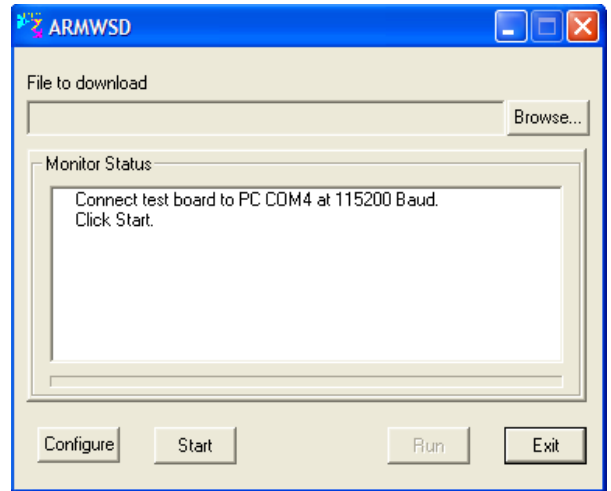

Figure 8. ISEB ARMWSD Firmware Downloader
2. Run the **ARMWSD.exe** program located in the **Firmware Utility** folder; it displays information about the downloader, see Figure 8.
When the COM port is selected, click **OK** to accept the changes and go back to the ARMWSD window (see Figure 8). The downloader is now fully configured.
1. Click **Start** in the ARMWSD box (see Figure 8) to initiate the flashing process.
4. If the downloading process fails, which is indicated in the **Monitor Status** window (see Figure 8), attempt the download again by repeating Step 1 through Step 3.
5. After the download has completed successfully, click **Run** (shown in Figure 8).